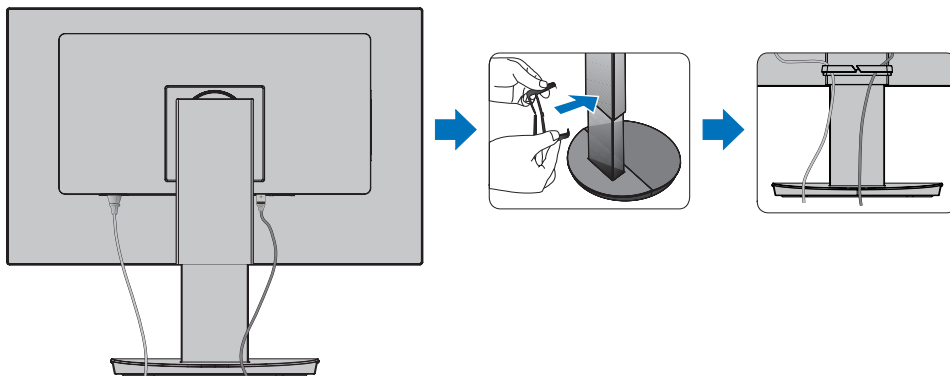

Figure 4
3. Place the cable holder onto the stand (**Figure 4**).